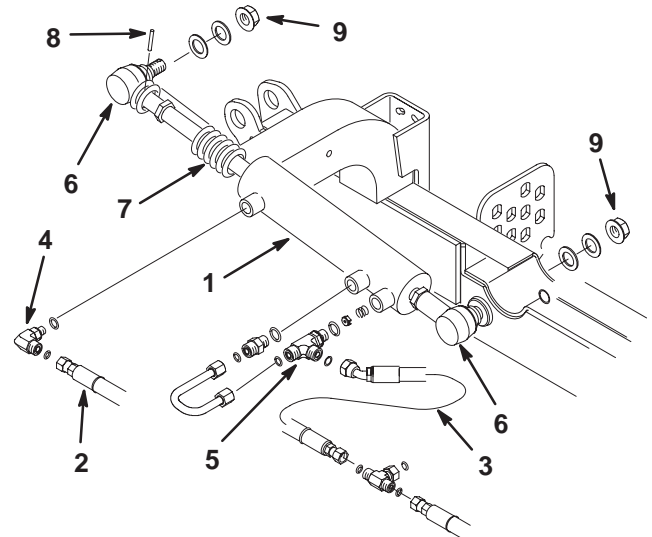

Figure 1
3. Disconnect the hydraulic hoses from the 90° fitting and the tee fitting on the hydraulic lift cylinder (Fig. 1). Right hand hydraulic cylinder is shown in figures.
4. Loosen and remove the 2 nuts securing the hydraulic cylinder ball joints to the deck frames (Fig. 1). Remove the nuts, the washers and the ball joint. Retain the washers and the nuts for reassembly.
5. Rotate the compression spring until it is off the roll pin in ball joint (Fig. 1).
6. Remove the roll pin from the ball joint (Fig. 1). Retain the roll pin.
7. Loosen the jam nuts securing the ball joints to the cylinder rod and the cylinder body. Remove the ball joints and compression spring (Fig. 1). Retain the ball joints and spring.
8. Remove the 90° fitting w/O-ring from the cylinder body (Fig. 1). Retain the fitting w/O-ring.
10. Disconnect the hydraulic hose that was connected to the tee fitting on cylinder (Fig. 1). Discard hose.